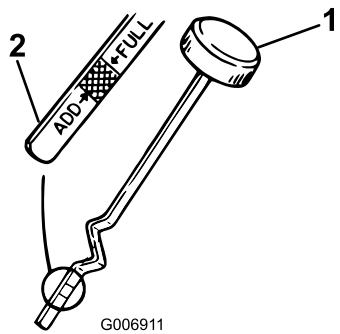

Figure 19
7. Unscrew the oil dipstick and wipe the metal end clean (Figure 19).